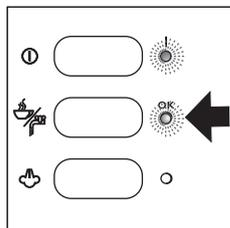
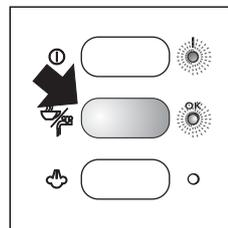

fig. 6
fig. 7
3. Position a cup under the filter holder. Use the same cup that the coffee will be served in, so that it may be preheated. Wait until the "OK" light comes on (fig. 6), then immediately press the coffee knob (fig. 7). Allow the water to run until the OK indicator light goes out, then stop the water by pressing the coffee button again (fig. 7).
5. Wait until the “OK” light comes on (fig 6) then press the coffee button (fig. 7). Once the required quantity of coffee has been obtained, interrupt delivery by pressing the same button again (fig. 7).
1. Turn the appliance on by pressing the ON/OFF button (fig. 4). Wait until the OK indicator light comes on (fig. 6).
3. Press the coffee button (fig. 7) and at the same time open the steam knob. Hot water is delivered from the cappuccino maker.